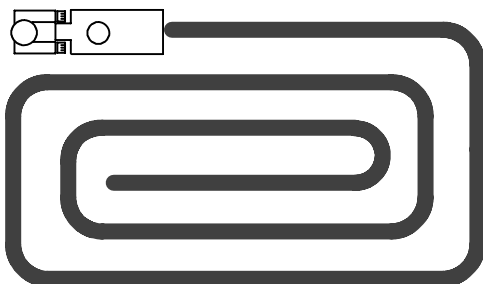

FIG. 12
2. Use a collapsing rectangle pattern when cleaning large rooms (Figure 12).